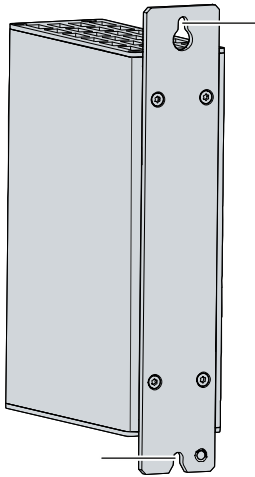

Fig. 14: Dismantling the control cabinet
2. Lift the PC far enough so that the fastening screws slip into the keyholes (see fig. 14).